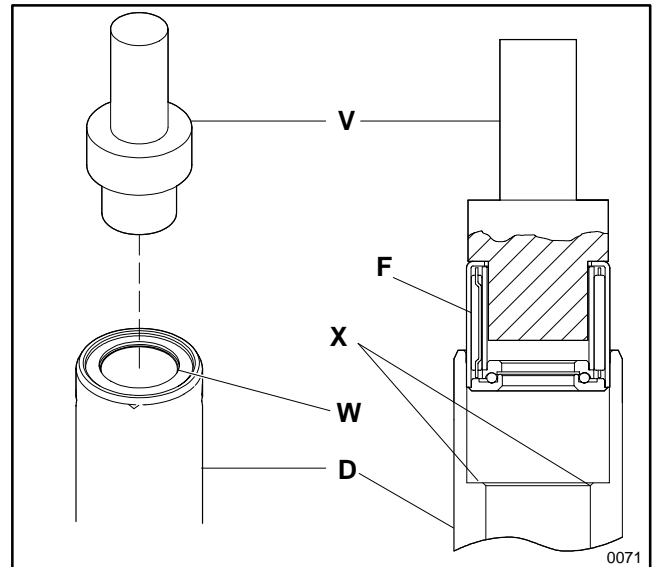

Figure 25
1. Hold the pulley (D of Figure 25) in an upright position with "V" block or other means. Support the bottom end of pulley (D) using anvil/sleeve removal tool (U).